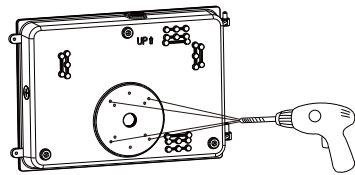

Fig. 1-2A
2. Drill an installation hole at the bottom of fixture, paste the EVA mat.(Fig. 1-2A&B)